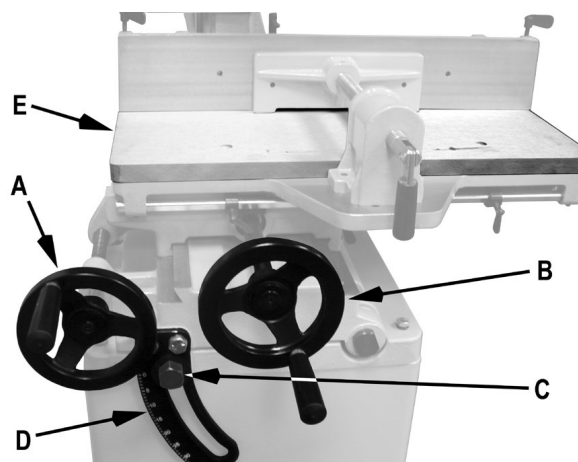

Figure 15
The 719T Mortiser is equipped with two handwheels for table (E, Fig. 15) positioning. In addition, the table can be tilted up to 35° for angle mortising.
2. Turn the *handwheel* (A, Fig. 15) to move the table the *forward* or *backward*.
2. Turn the *handwheel* (B, Fig. 15) to move the table to the *right* or *left*.
1. Loosen bolt (C, Fig. 15) with the 23mm wrench provided.
2. Pivot the table to adjust the angle up to 35° using the scale (D) on the tilt bracket as a guide.
3. Tighten the *bolt* (C).